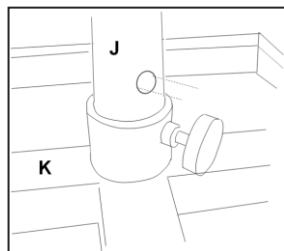

Figure 1
Slide 24" black pvc post (J) into center post of rolling base (K). Line up hole in "J" with threaded knob. See figure 1
Slide lower umbrella pole (B) into 24" black PVC post (J). Hand tighten threaded knob pictured in Figure 1.
Lean the umbrella on the ground. See Figure 1. Push button "In" on the side of the lower umbrella pole (B). Pull umbrella canopy (A) away from lower umbrella pole (B). Remove Sign Mount (E&F) from the umbrella canopy pole and lay on the ground.